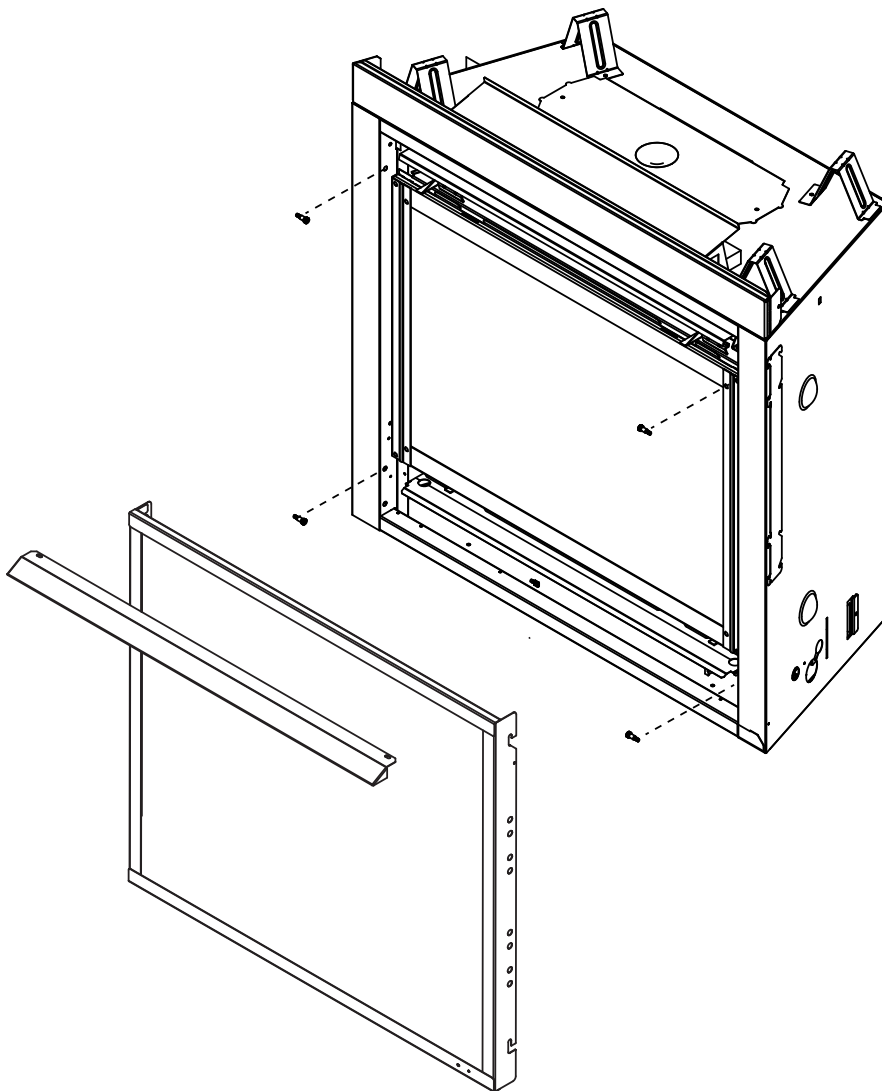

Figure 10.9 Install Decorative Barrier front and Hood
2. Install four shoulder bolts as shown in Figure 10.9.
4. Install hood on appliance by inserting into the two hood clips. See Figure 10.9.